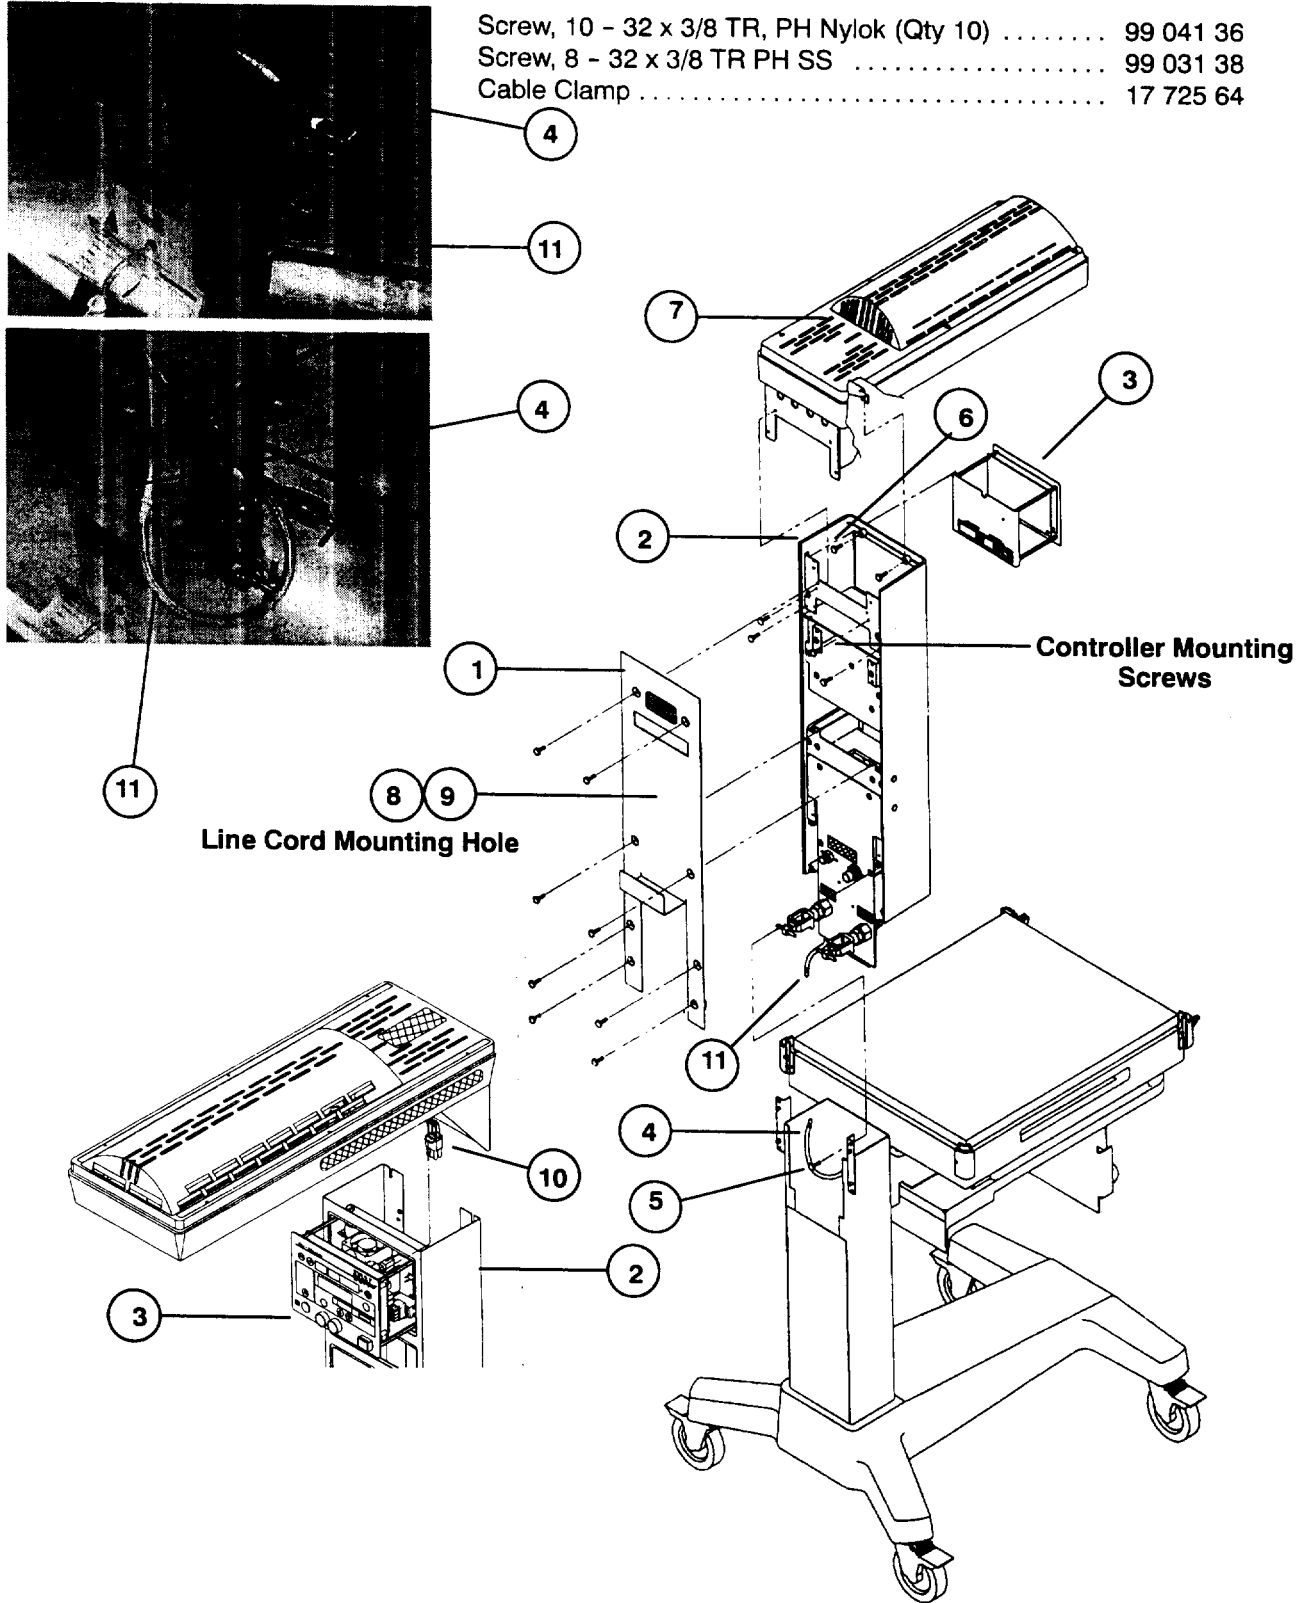

FIGURE 2.1 INSTALLATION
2.2 ASSEMBLY (Refer to Figure 2.1)